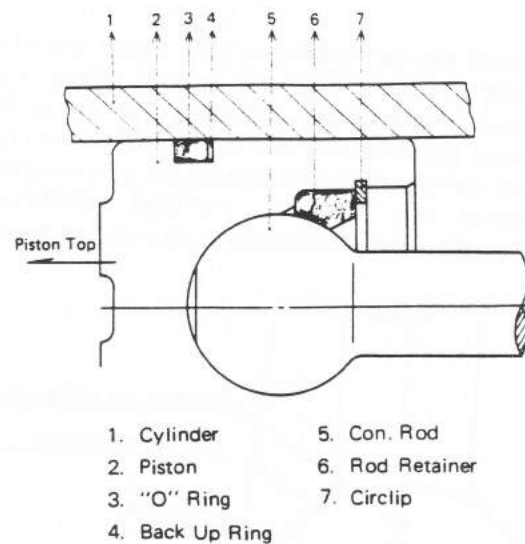

Fig. 14 Piston Assembly
Refer to Fig. 14.
2. Connect the connecting rod (6) to the piston. For this procedure, the rod retainer must be installed so that the machined spherical surface (inner side) is in contact with the connecting rod, as shown in Fig. 14. Lock the circlip (5) by using the special tool (H-1 SNAPPING PLIERS).
3. Put the piston assembly in the cylinder, and connect the ram arm (8) to the connecting rod (6) by the lift fork pin (7). Install the washer (10) and install the cotter pin.